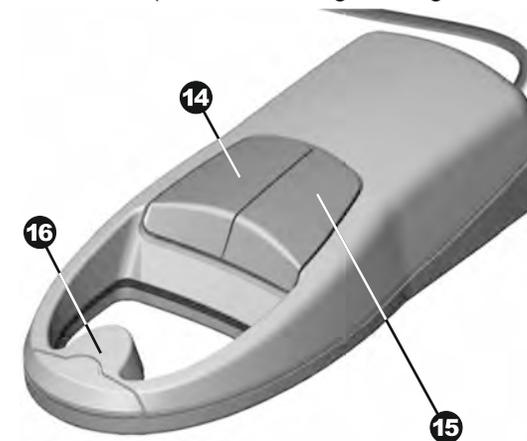

Fig. 21. Detector of magnetic and IR marks **DORS 15**
1. When detector **DORS 15** (see Fig. 21) is in use, the operation mode of the device itself may be any.
3. Press any key (14, 15) to switch on the **DORS 15**.
4. A short pressing of the **SELECT** key (14) selects the magnetic verification mode (built-in LED is lighted in green color).